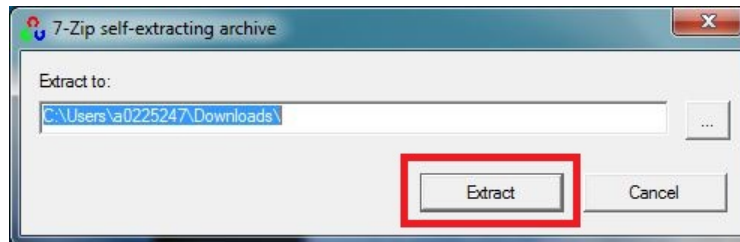

Figure 4-13. OpenCV Source Extraction Path
3. Run the downloaded OpenCV file and click on the **Extract** button, shown in Figure 4-13.